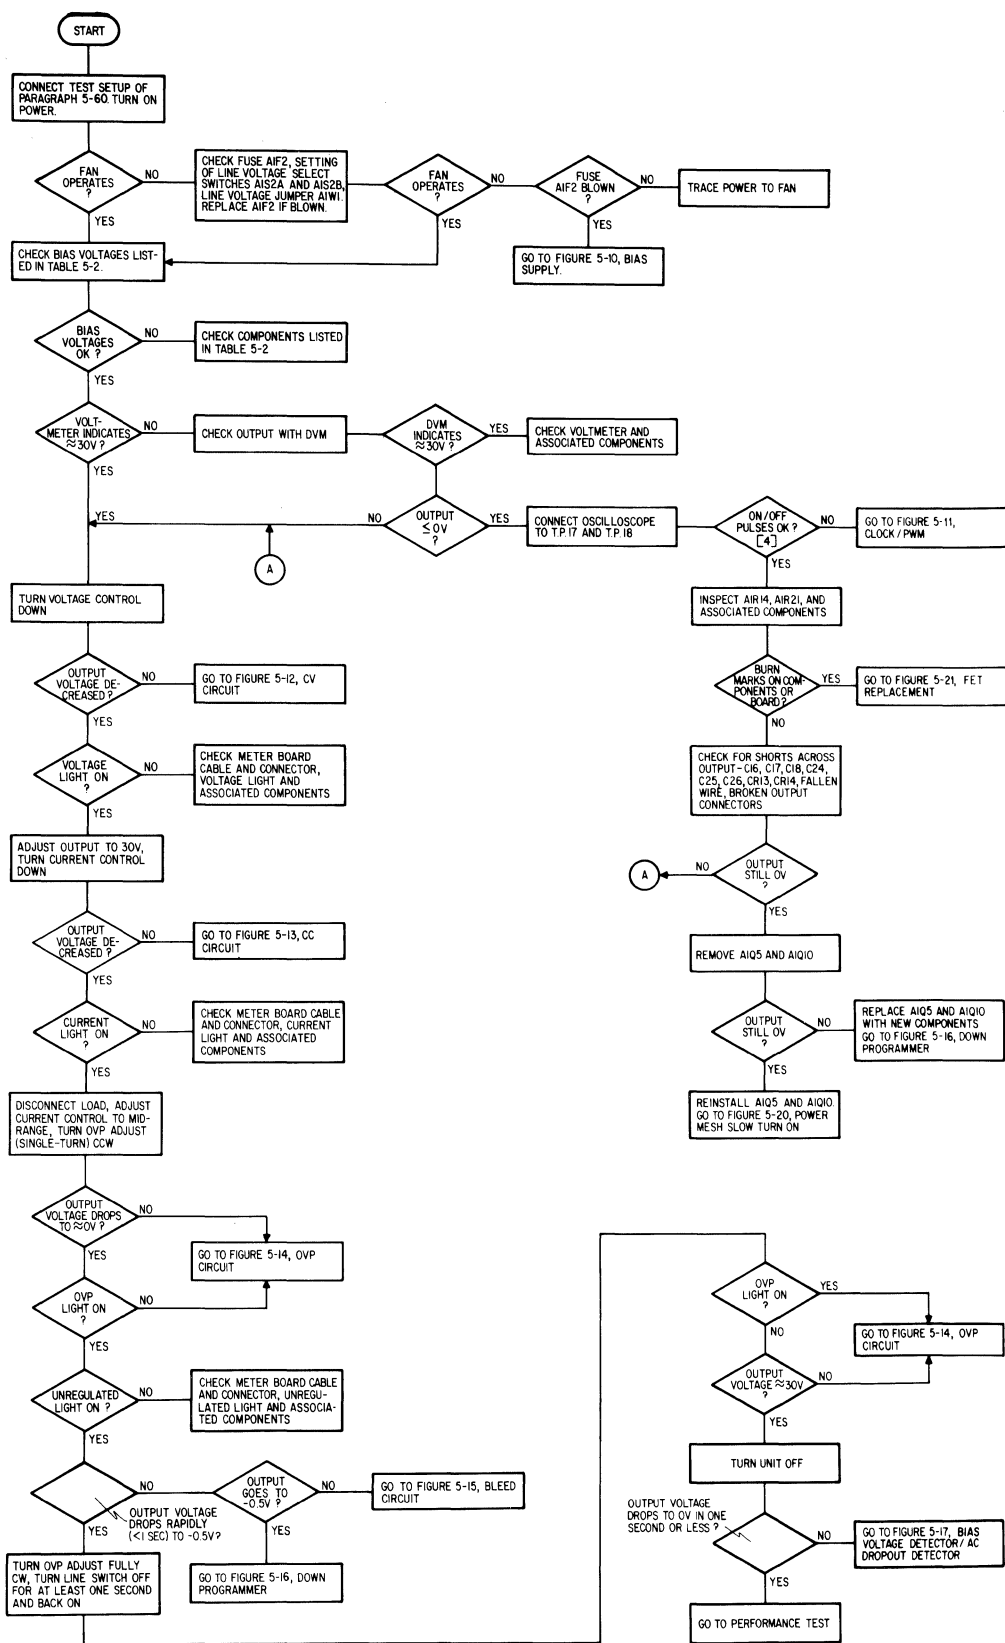

Figure 5-9. Overall Troubleshooting Tree
5-62 Once the test setup is arranged, proceed to the overall troubleshooting tree in Figure 5-9. This tree will isolate trouble to a particular circuit and direct you to another troubleshooting tree to isolate the trouble within the circuit.
8. After isolating and correcting a problem, go back to the beginning of main troubleshooting tree, Figure 5-9, unless otherwise directed.